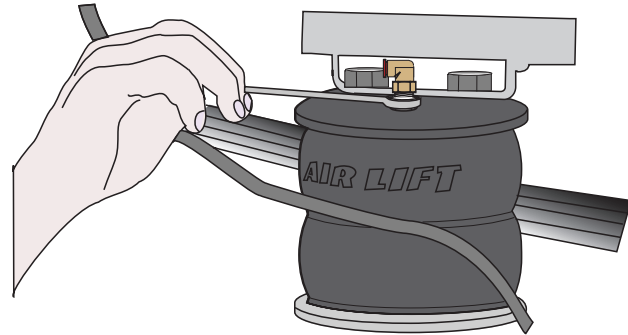

Fig. 17
12. Install the swivel air fitting (T) into the top of the air spring (A). This fitting is pre-coated with sealant. Finger-tight plus two full turns with an open-end wrench will seal the fitting (Fig. 17).